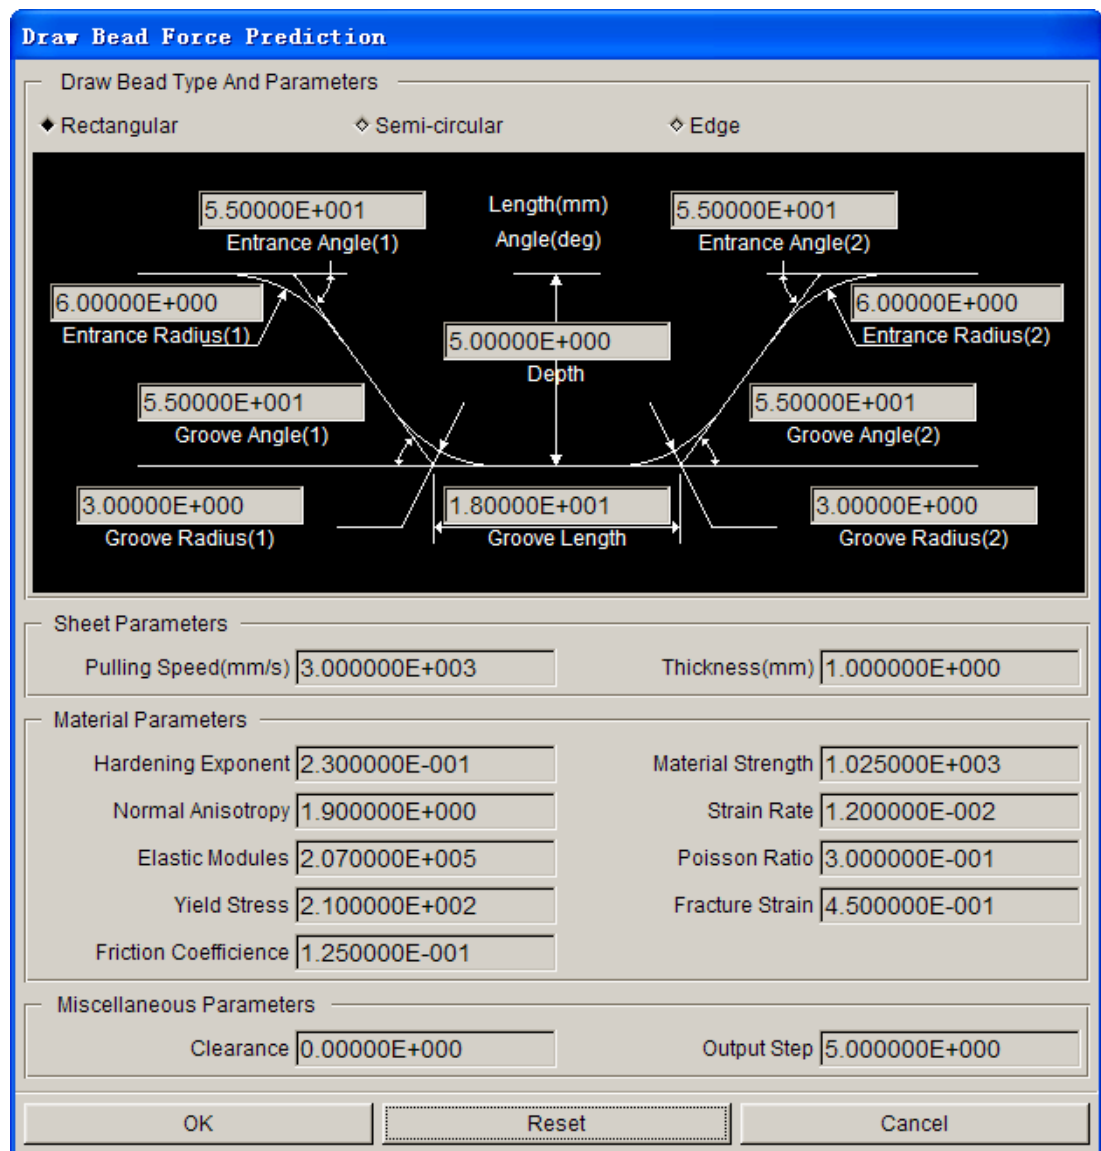

Figure 9.4.5 Drawbead Force Prediction dialog box
**AUTO** – This function enables the user to create bending curve according to the drawbead section figure and the material of the blank as illustrated in Figure 9.4.5. The user can input all the parameters in the DRAWBEAD FORCE PREDICTION dialog box, following by clicking on the OK button to exit the dialog box. The defined curve ID is specified as the BENDING curve ID for the property.